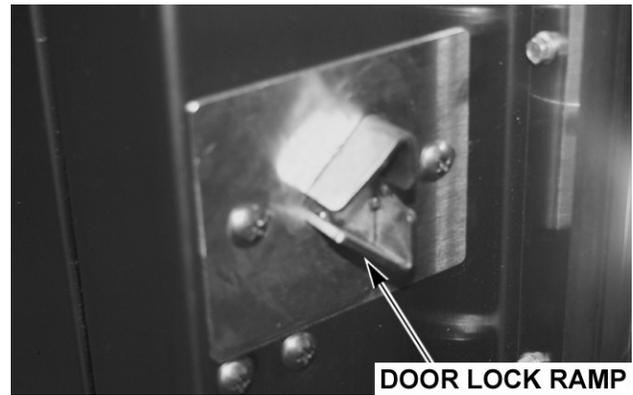
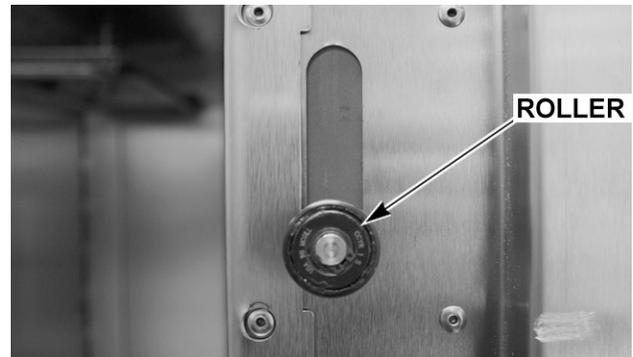

Fig. 5
Fig. 6
- B. Check that the loading door lock ramps are clean (Fig. 5) and rollers on the door move up and down and spin freely (Fig. 6).
- C. Adjust latch ramps in or out by loosening the two screws. DO NOT REMOVE THEM. Slide ramp in or out to loosen or tighten door (Fig. 5).
- A. Pull out on door handle (Fig. 10) to open door, then push door shut (Fig. 11). If the door is too hard to open or close, see door ramps adjustment (Fig. 5).